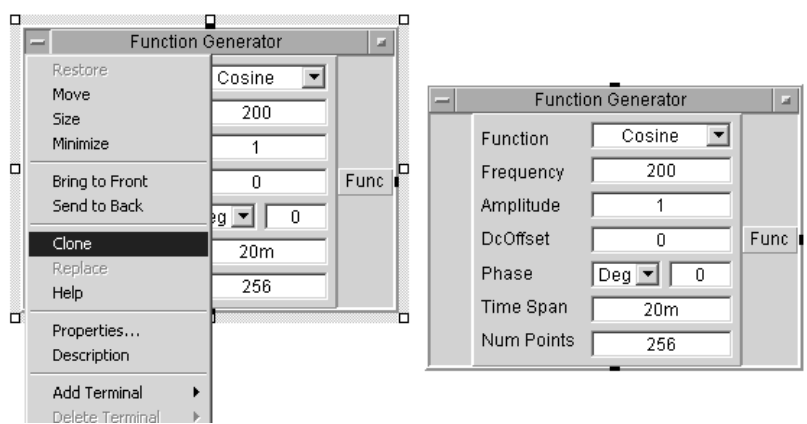

Figure 10 Cloning an Object
- 2 Move the outline to the desired location, and click to place the object. The cloned object appears, while the original object remains. In Figure 10, the Function Generator has already been cloned once, and the object menu has the command selected to clone it again.